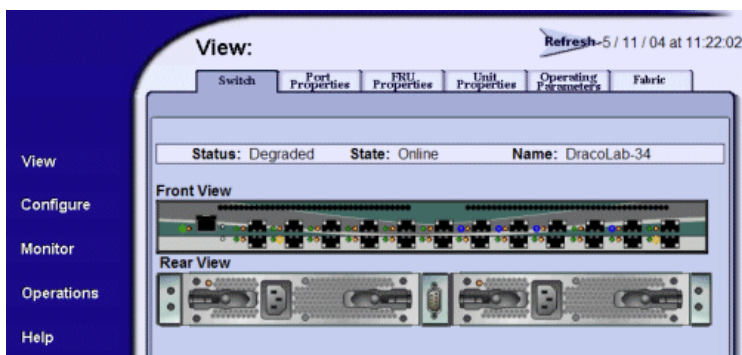

Figure 37: Embedded web server interface—View window
5. Click **OK**. The Embedded Web Server interface opens with the View window displayed, as shown in Figure 37.